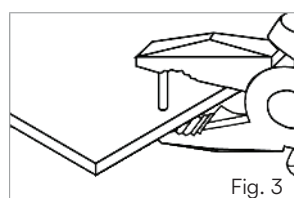

Fig. 3
- Using pliers insert the pins supplied in the kit into the holes (**Fig. 3**)